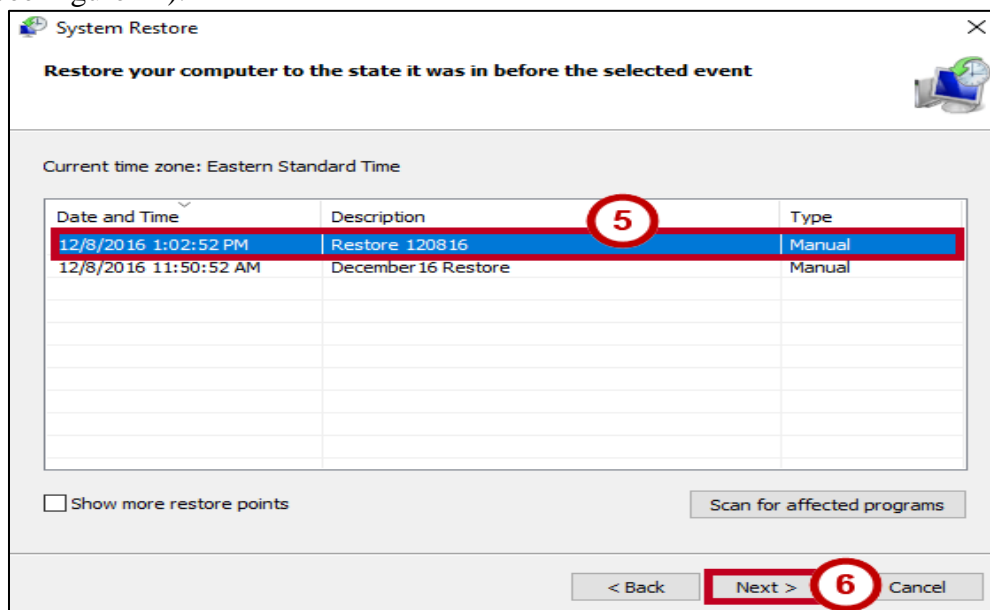

Figure 22 - Click Next
5. A list of restore points will be displayed. Click the **date** you want to use for your restore point (See Figure 22).
6. Click **Next** (See Figure 22).